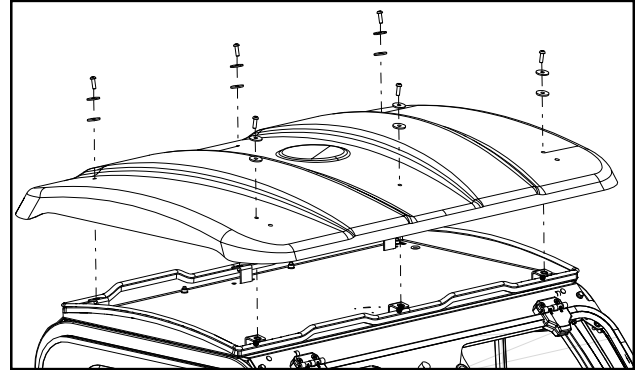

Fig. 1.1
- 1.1 Remove the plastic roof from the metal roof pan by removing the 6 button head bolts, metal fender washers and rubber fender washers keep this hardware for reuse. See figure 1.1.